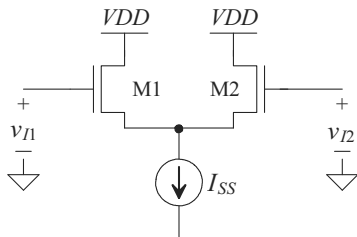

Figure 22.36 Diff-amp used in Problem 22.1
22.1 Determine the drain current of M1 as a function of the input voltage, $v_{I1} - v_{I2}$, for the diff-amp shown in Fig. 22.36. Neglect body effect. What does your derivation give for i_{D1} when v_{I1} is much larger than v_{I2} ?